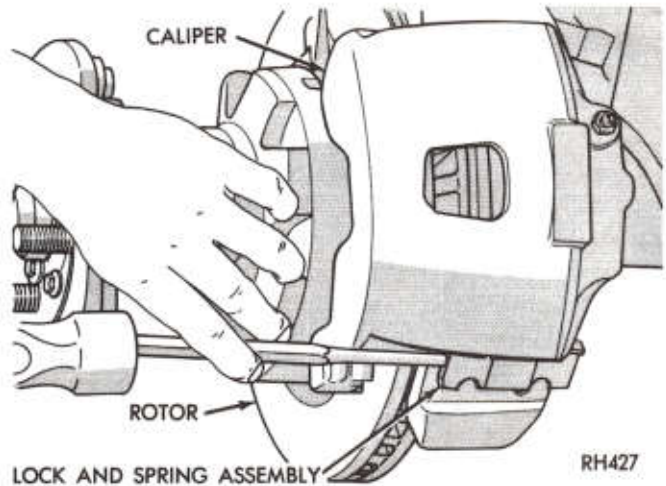

Fig. 3—Removing Caliper Lock and Spring
- (5) Tap adapter lock and spring from between caliper and adapter (Fig. 3).